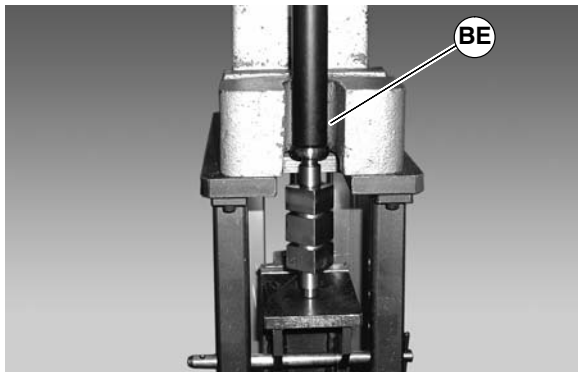

Figure 37
1. Press bearing onto drive pulley using installation tool 456085 (BE of Figure 37).